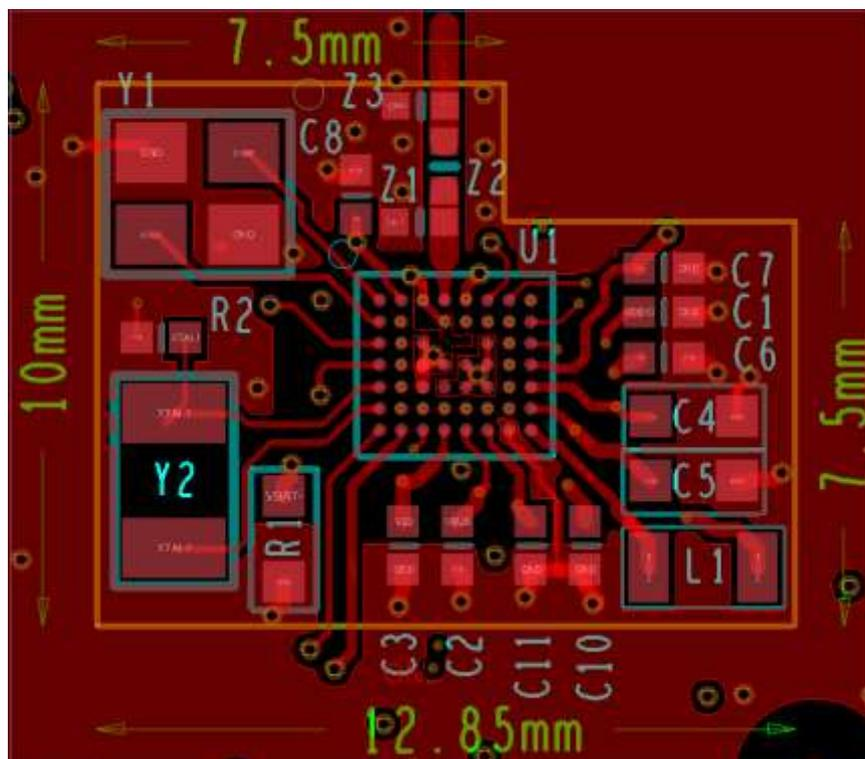
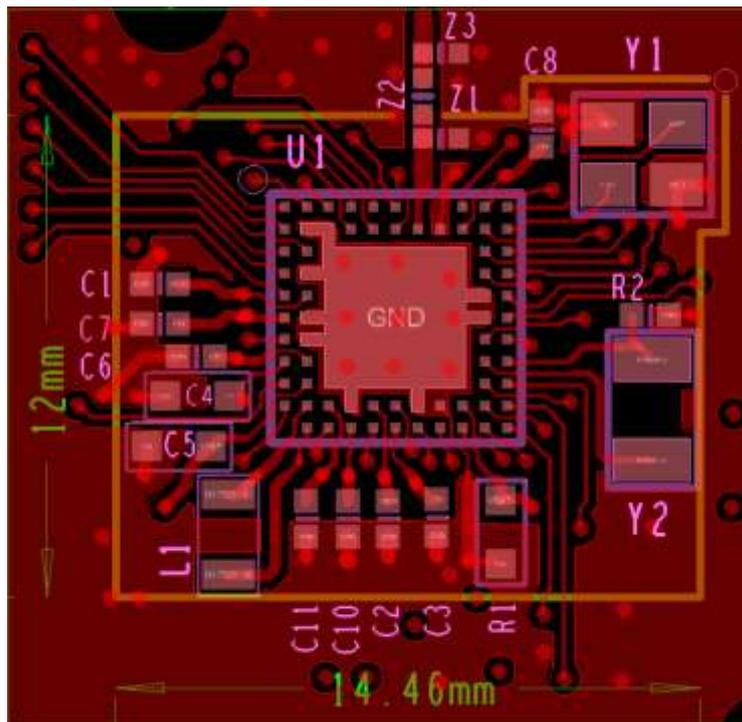

Figure 28: WLCSP53 PCB layout, top side
Figure 33: AQFN60 PCB layout, top layer
- Make sure that the component's GND are connected on the same GND plane (left-hand side of the transmission line in Figure 28 and right-hand side in Figure 33).
An example pcb layout, where all signals are extracted, is presented below (Figure 28). This is a 4 layers pcb, in 1-2-1 configuration. Microvias, 100  $\mu$ m - 250  $\mu$ m were used between layers Top (L1) – L2 and L3- Bottom (L4). No buried vias have been used. Finally the PTH vias are 200  $\mu$ m - 450  $\mu$ m (drill diameter - pad diameter).
- Place the 16 MHz or 32 MHz crystal used as reference for the BLE radio as close as possible to the IC. This will minimize any additional capacitive load on the input pins and reduces the chance of crosstalk and interference with other signals on the board. For the same reason, please provide openings in the nearest ground layer under the 'hot' pads of the 16 MHz or 32 MHz crystal. Please refer to Figure 28.
- A decoupling cap should be placed very close to GND\_BUCK and VBAT1, as is presented on Figure 28.
- Place the 16 MHz or 32 MHz crystal as close as possible to the IC. This will minimize any additional capacitive load on the input pins and reduces the chance of crosstalk and interference with other signals on the board. For the same reason, please provide openings in the nearest ground layer under the 'hot' pads of the 16 MHz or 32 MHz crystal. Please refer to Figure 33.
In order to avoid potential BOD problems when the SIMO BUCK DCDC is active (lifting of the internal BOD reference voltage caused by large DCDC peak currents), a ground via connected to a solid ground-plane near the DCDC\_BUCK exposed ground stub must be present. In Figure 33 it's the most bottom-left placed via in the ground under the chip. This Buck DCDC\_Ground is located between the VBAT2, VBAT1 and VBUS pins: between pins B6 and B7.